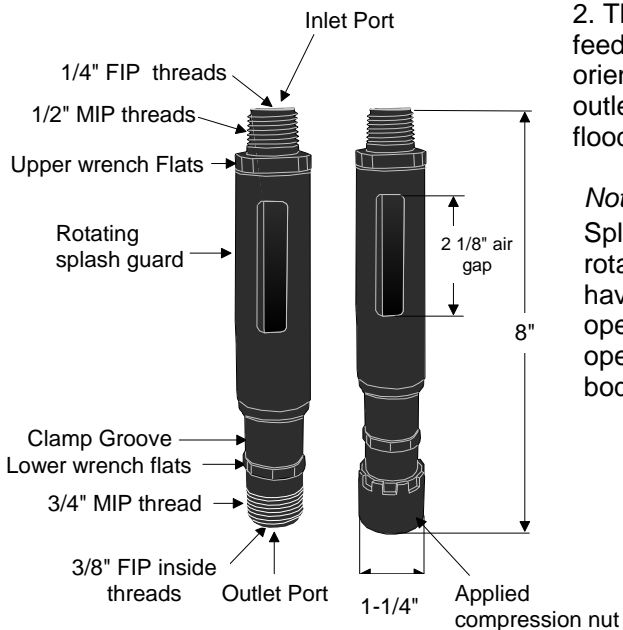

Fig 1-1
1. Make sure that the flow rate output of the water softener or water filter does not exceed the air gap's flow capacity limits. For the description and dimensions of the unit, see Fig. 1-1.